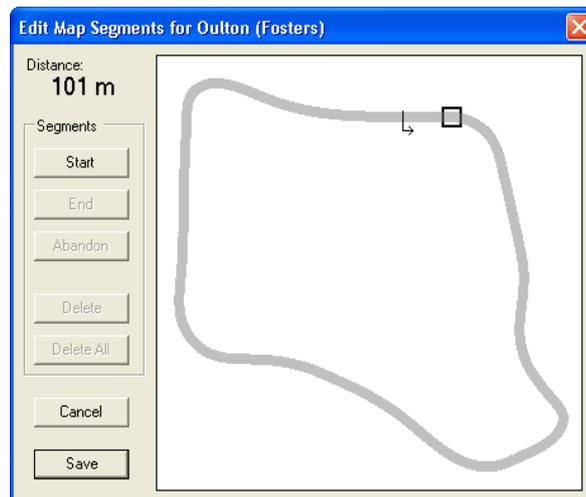

Figure 24 - Edit Map Segments Dialog (No Segments)
2. Choose **Map** → **Edit Segments** from the main menu or select the **Edit Segments** from the circuit map context menu. The Edit Map Segments dialog (Figure 24) appears.